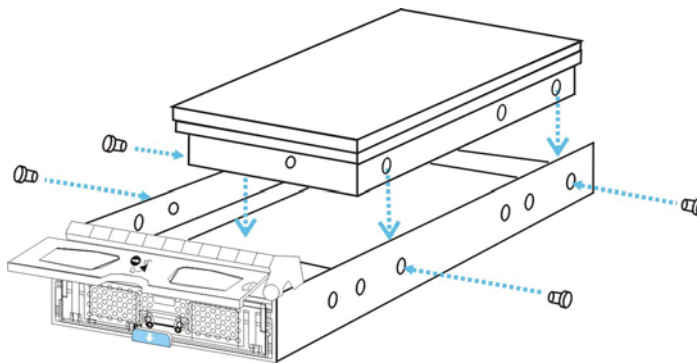

Figure 2-4: Installing a SATA Hard Drive
- Step 1. **Place the SATA hard drive into the drive tray** (as shown in *Figure 2-4*) making sure that the hard drive is oriented in such a way that the drive’s SATA connector is facing the back of the drive tray.
Step 2. *Adjust the drive's location* until the mounting holes in the drive canister are aligned with those on the hard drive. Secure the drive with four supplied 6/32 flathead screws. (See *Figure 2-4*)